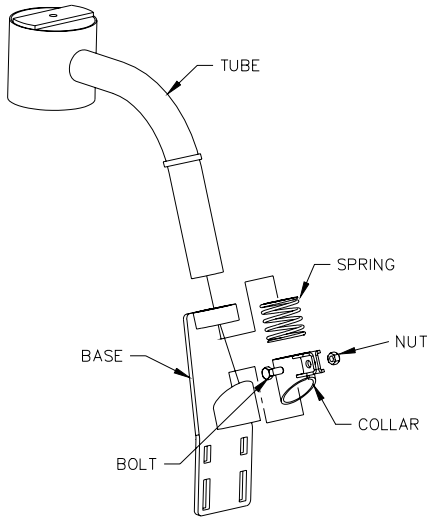
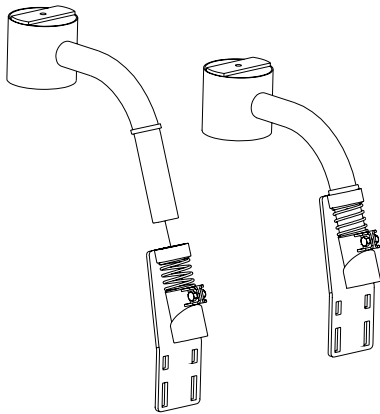

Figure 5 – Breakaway Sensor Bracket Exploded View
Figure 6 – Breakaway Sensor Mounting Bracket Assembly
1. Assemble the Breakaway Sensor Mounting Brackets (B11) as show in **Figure 5** and **Figure 6**.